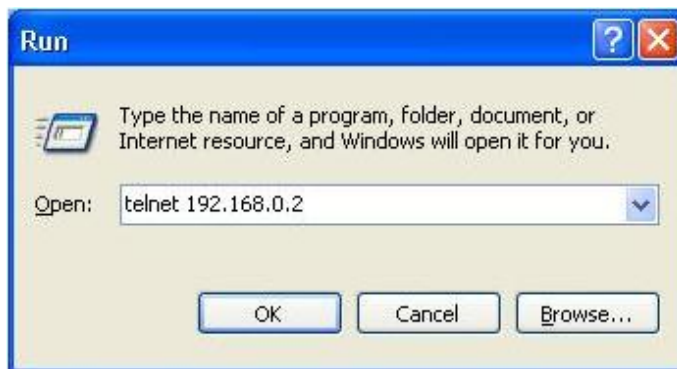

Figure 20 Access through Telnet
2. Input "*IP address*" in the browser address bar (Default ip: 192.168.1.2). After opening the login dialog box, enter the default user name (admin) and default password (123) to successfully log in to the device Web management page.
Step 2: Enter "telnet IP-address" in the Run dialog box, as shown in Figure 20. The default IP address of a Kyland switch is 192.168.0.2.